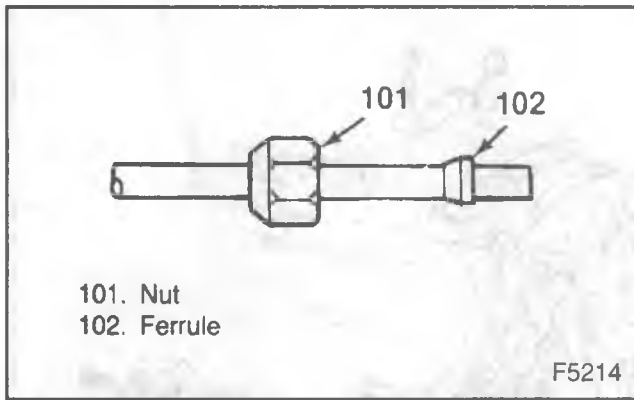

Figure 27—In-Line Filter Installation
7. Place the nut over the condenser end of the liquid line (figure 27).
8. Install the ferrule with the small end toward the nut (figure 27).
10. Place the nut over the orifice end of the liquid line (figure 27).
11. Install the ferrule with the small end toward the nut (figure 27).